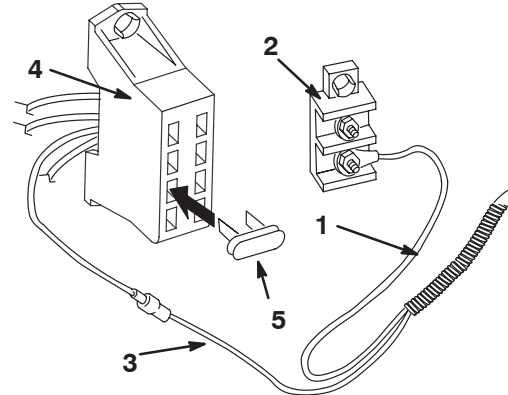

Figure 12
2. Connect the ring or fork terminal on the black wire to the ground terminal block (Fig. 12).
4. Insert the 30-amp fuse into the fuse block in the position where you connected the red wire (Fig. 12).